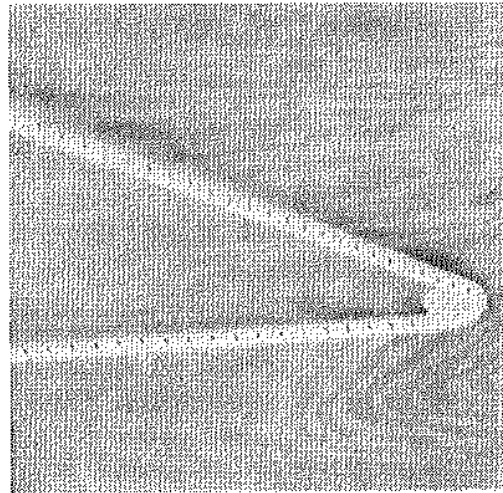

Fig. 8
13. Hook elastic cord from bed flaps over nylon holders beneath bed in the following order: first, outer corner loops with clamp rings; second, inner corner loops with clamp rings near camper box, and third, remaining holders. All holders **MUST** have cord attached and **IN USE** when Camping. Fig. 8